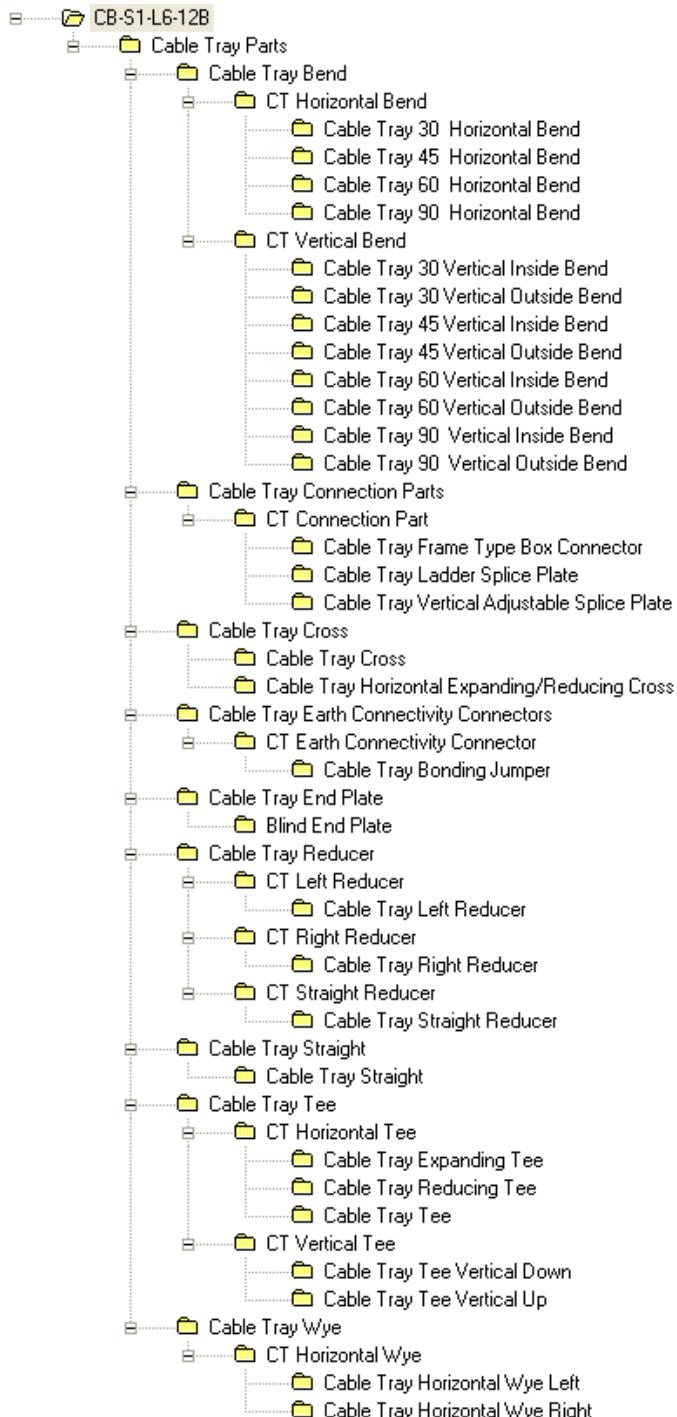

Figure 1: Cable Tray Part Hierarchy
- Currently reference data will return all parts that satisfy the specification and the insertion point as opposed to limiting the list to component sizes. Users must familiarize with the naming convention of the parts and the cable tray part hierarchy as shown in Figure 1. The cable tray part hierarchy can be standardized based on the project specification set.